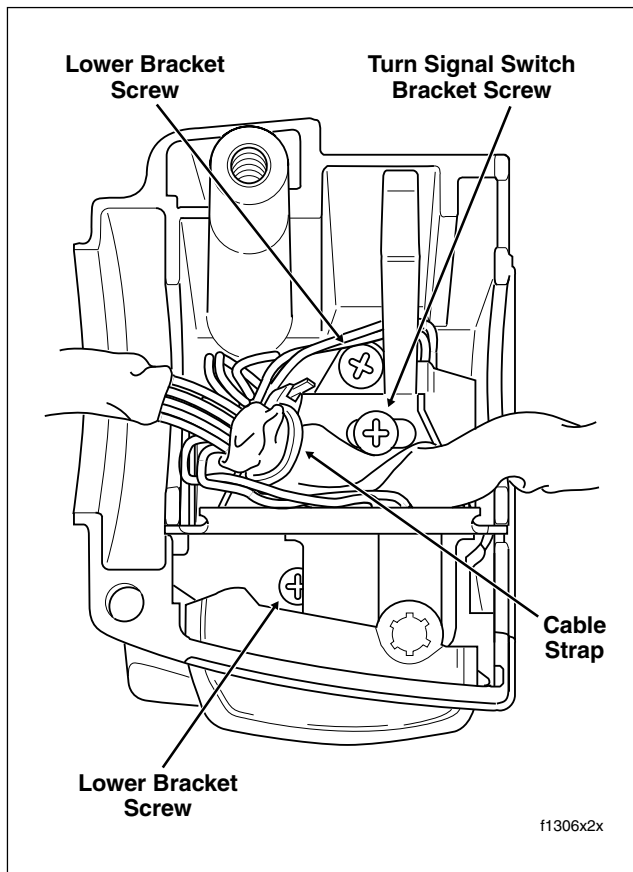

Figure 8-109. Lower Left Handlebar Switch Housing (Without Splices) - Classic/Ultra Models
2. Remove two lower bracket screws. See Figure 8-109. Pull bracket and switch from switch housing.